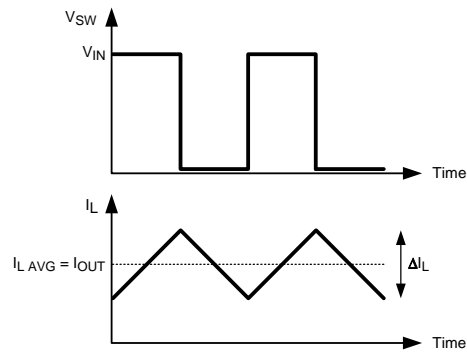

Figure 25. Switch And Inductor Current Waveforms
The inductor (L) used in the application will influence the ripple current and the efficiency of the system. The first selection criteria is to define a ripple current, ΔI_L . In a buck converter, it is typically selected to run between 20% to 30% of the maximum output current. Figure 25 shows the ripple current in a standard buck converter operating in continuous conduction mode. Larger ripple current results in a smaller inductance value, which will lead to lower inductor series resistance, and improved efficiency. However, larger ripple current will also cause the device to operate in discontinuous conduction mode at a higher average output current.